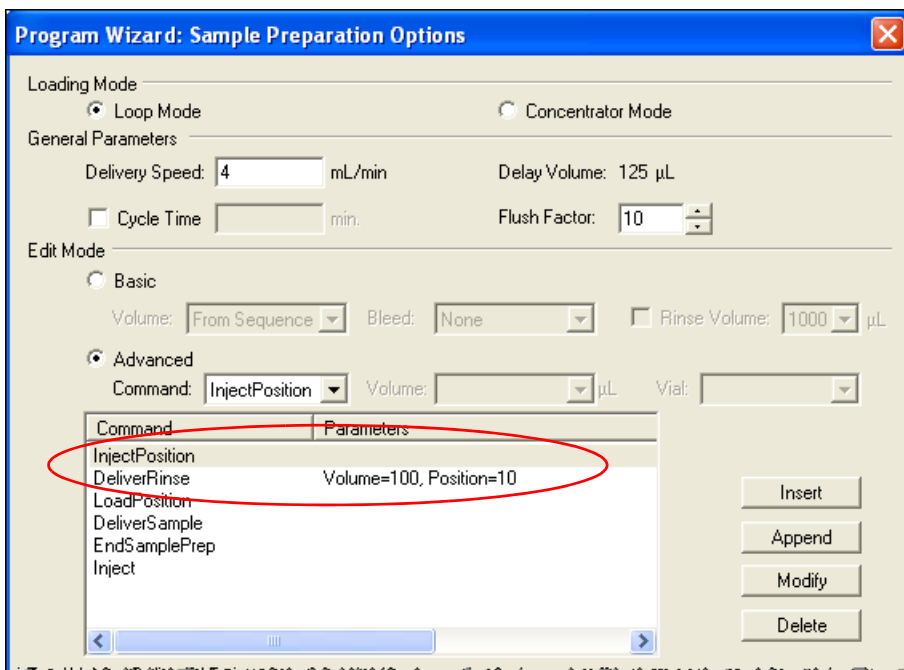

Figure 3-11. Sample Preparation Options: Deliver Rinse in Advanced Edit Mode (Chromeleon 6.8 Version Shown)
3. If you are using **Advanced Edit Mode**: Manually add the **InjectPosition** and **DeliverRinse** commands described above to the **Command/Parameters** table (see Figure 3-11). With this mode, you can deliver the rinse from any vial.